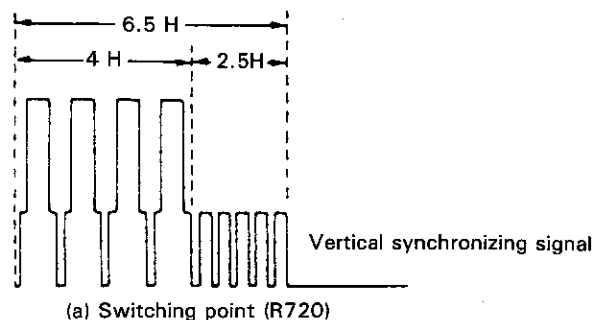

Figure 2-2.
2. Using the puls (-) trigger slope of the oscilloscope, adjust R720 (SW POINT) to provide a waveform of 6.5 ± 0.5 H as shown in Fig. 2-2.